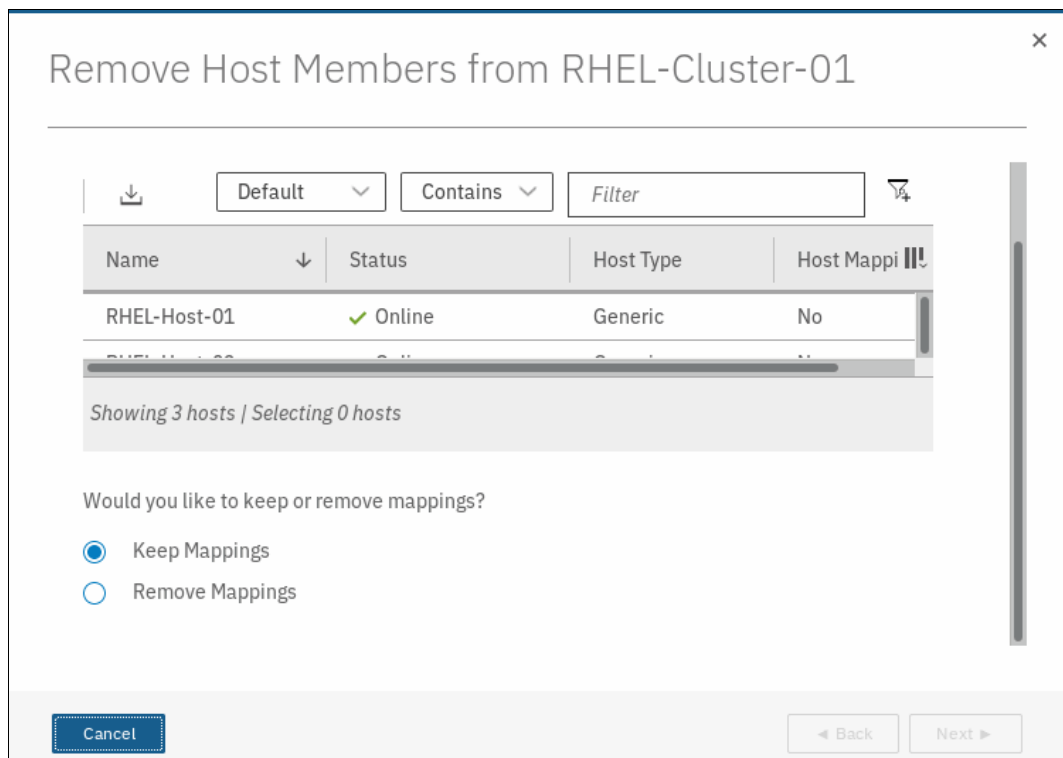

Figure 5-98 Host Cluster member selection
3. A window opens in which the hosts that are members of the host cluster are listed, as shown in Figure 5-98.